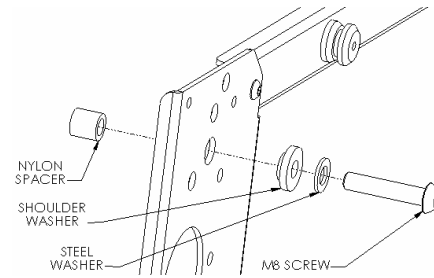
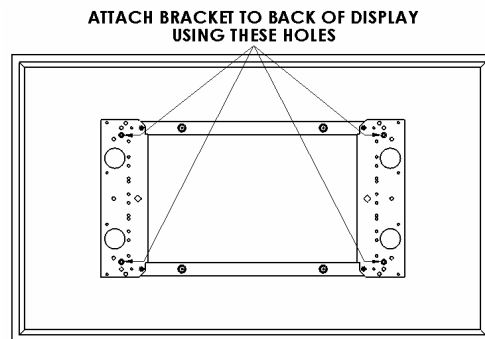

Figure 6
Figure 7
3. Place Nylon spacers over mounting holes on back of screen. Attach mounting brackets to display using the M8 screws, shoulder and steel washers (see Figure 6 & Figure 7).